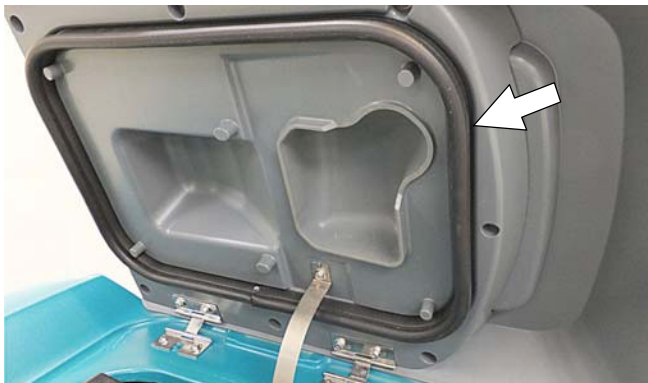

FIG. 113
- Inspect and clean the seal on the recovery tank lid (Figure 113). Replace seal if damaged.